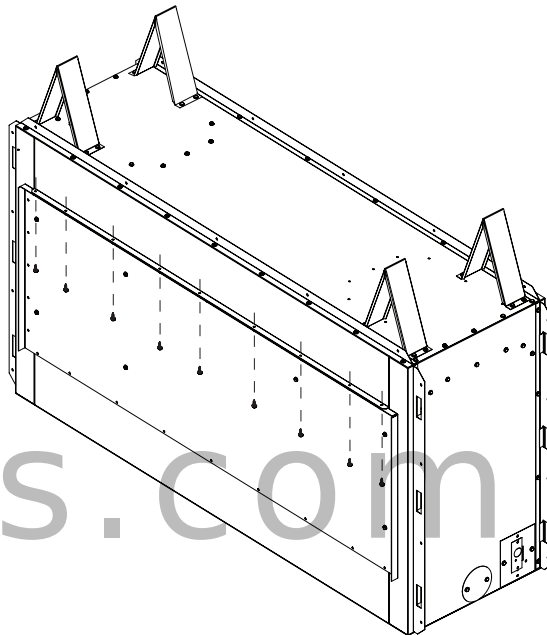

Figure 18 - Removing Rear Panel for See-Thru Applications
1. In the rear of the fireplace, locate screws at top of rear panel and remove as shown in **Figure 18**. Discard screws and rear panel.